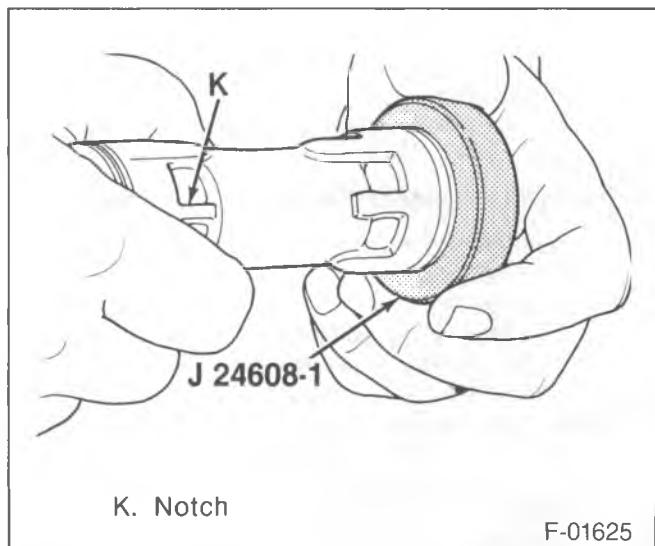

Figure 39—Gaging the Piston Ring Size
5. Piston (32) to J 24608-1 (figure 39).
- The piston (32) should pass through the ring gage with a two to eight pound force.
6. Repeat for the opposite end of the piston (32).
7. Lubricate both ends of the piston (32) with 525 viscosity refrigerant oil before installing the piston into the cylinder bore.